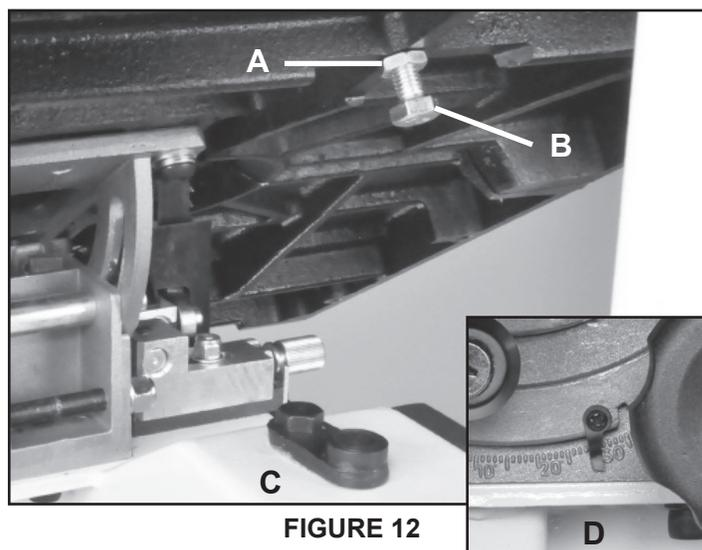

FIGURE 12
Thread the Hex Bolt (#8B) and Nut (#7B) to the bottom of the table in the pre-bored and tapped hole. See Fig. 12, page 13. Setting the table to 90° to the blade will be done later on pages 13 & 14.
The table may be set at 90° to the saw blade sides by adjusting the table stop Bolt (#8B) under the table. The table stop bolt rests on the top of the pivoting Stop Block (#33A). Fig. 12.
1. First loosen the bolt's Locking Nut (#7B) Fig. 12, A.
3. Adjust the bolt (Fig. 12, B), up or down, until it is in contact with the pivoting Table Angle Stop Block (#33A) Fig. 12, C. Retighten the locking nut making sure that the table angle setting is maintained.
4. The angle indicator (#28B) on the trunnion, can be adjusted by loosening the Phillips head screw and moving the pointer into position. Fig. 12 D.